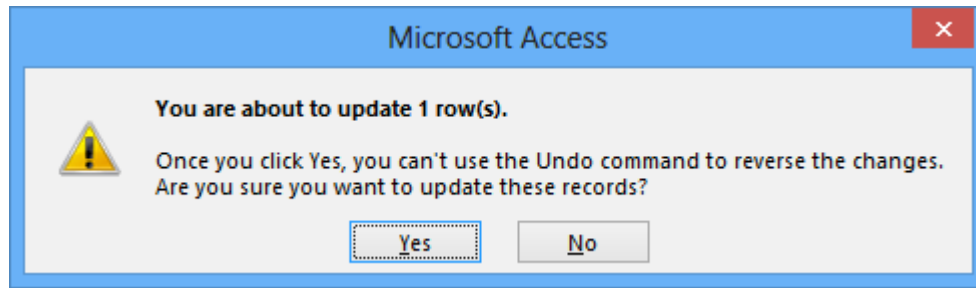

Figure 44: Update Message Box
4. **Execute the Query:** When you try to execute the query, the message in Figure 44 appears. Click the **Yes** button to update the record. Update queries can be repeatedly executed if you desire. If you execute this query two more times, the *UnitsInStock* field is reduced by 2. Close and save the query as “SQL6” when prompted.